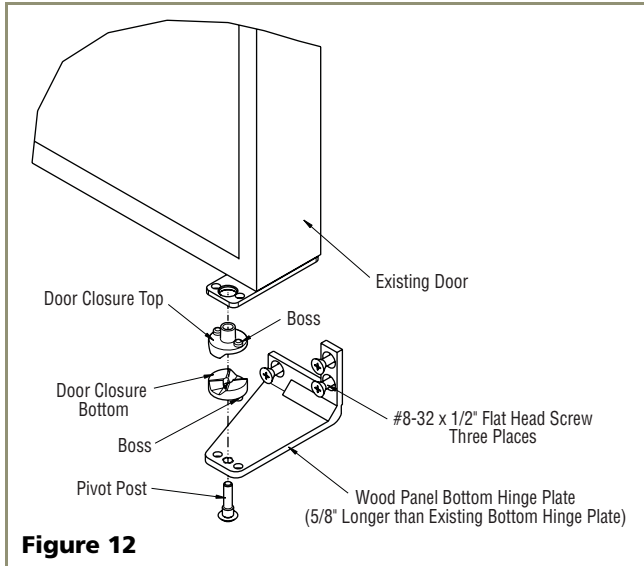

Figure 12
4. Replace the door closure assembly onto the bottom pivot post (see **Figure 12**). Be sure that bosses on closers align with holes in hinge and hinge plate.